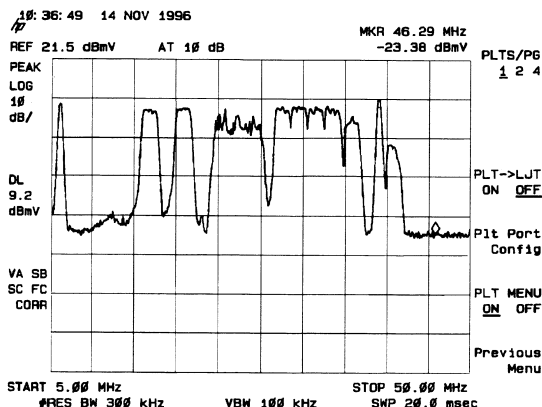

Fig. 14-13 Max-Held Spectrum Display
- The "max hold" spectrum scan shown in Figure 14-13 is an example of a fully-loaded reverse band. Services carried include telephony, data (cable modem), and PCS. You can also see a few CW signals at the high and low ends of the band, providing a consistent signal for the reverse laser. The spectrum scan is 45 MHz wide (5 to 50 MHz) or 4.5 MHz per division. A look at the spectrum indicates that these frequencies and bands should be omitted: 6, 15-16.5, 18.5-20, 22.5-27.5, 29-30.5, 31-32.5, 33-36, 36.5-38, 40 and 41-42.5.